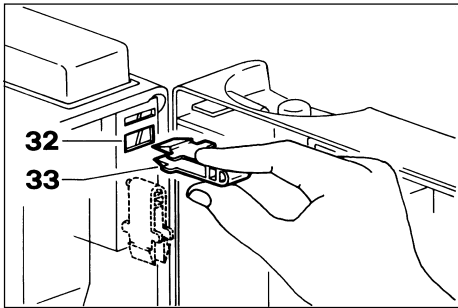
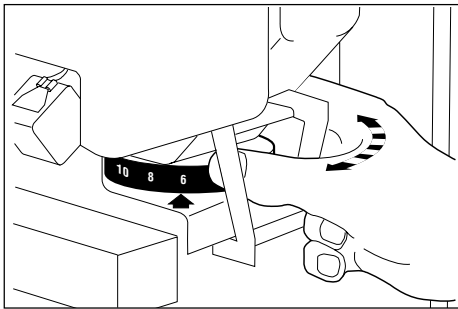

Fig. 14
Fig. 15
- Open the door and insert key (33) into slot (32) enabling safety sensors (Fig. 14).
**WARNING:** Although the front door of the machine is open, the key (33) enables the machine to remain in operating mode. Refer to authorized service personnel or use extreme caution when carrying out all procedures with the opened door.
- Keep button (27) pressed until a regular jet of water streams out of one of the dispensing tubes (7).
- The grinder can be adjusted to one of the following suggested values by turning the grinder adjusting ring (23) (Fig. 15):